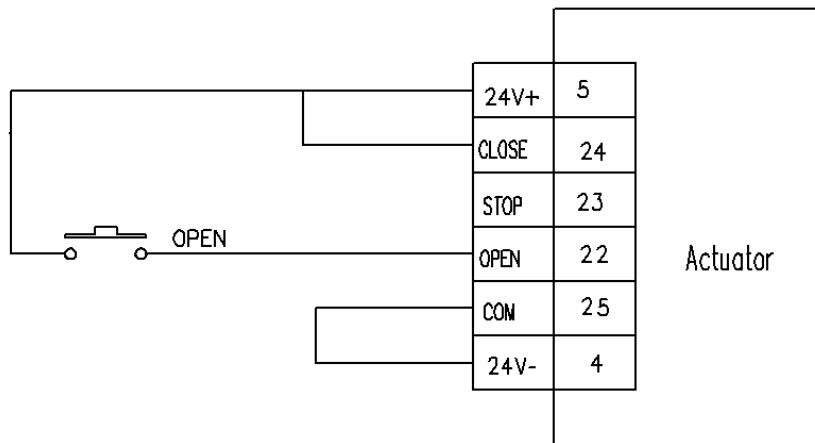

FIG. 4-6
4.2.2.4 Two wire control (Open valve priority) FIG. 4-6